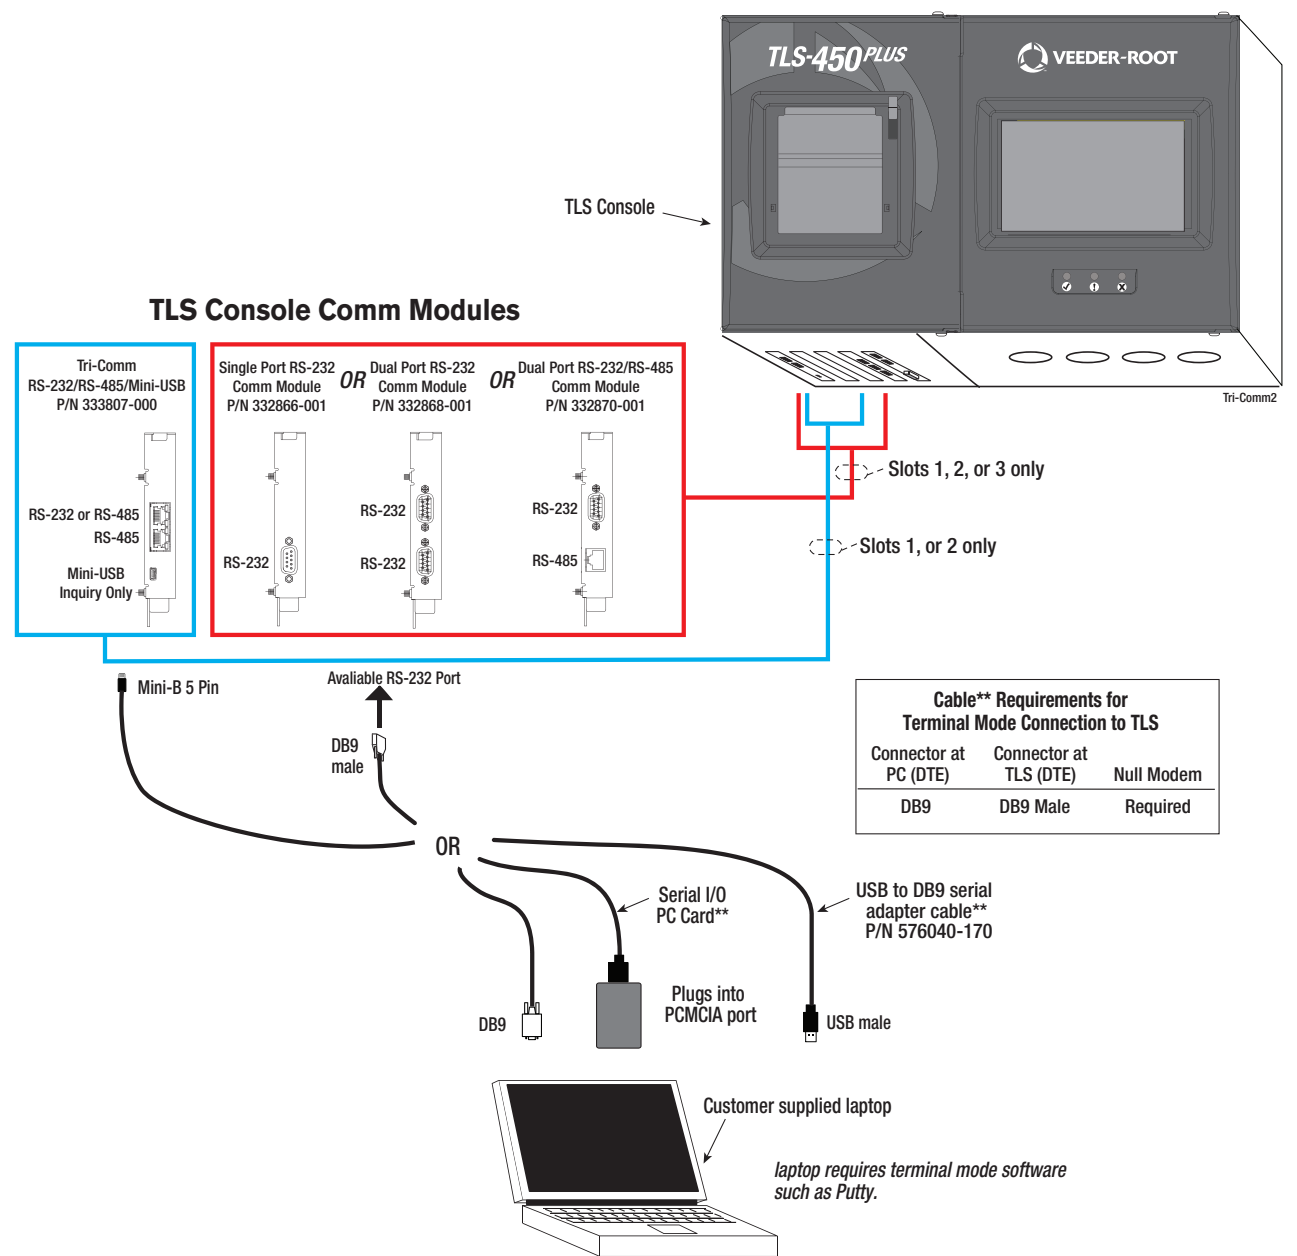

Figure 33. Connecting Laptop to TLS-450PLUS for Serial Communication
- 1. Connect your laptop to one of the TLS-450PLUS RS-232 Comm port using one of the methods shown in the in Figure 33 below.